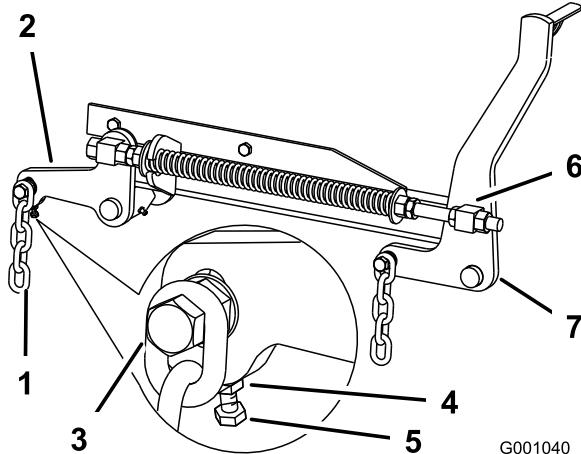

Figure 76
7. If the measurements at positions **B** or **C** are not correct, loosen the bolt attaching the rear chain to the rear support arm (Figure 76).
8. Loosen the jam nut under the rear support arm and adjust the adjustment bolt to get a measurement of 3-1/8 to 3-1/4 inches (Figure 76).
7. Loosen the front swivel jam nuts, at the front of the right and left swivels, approximately a 1/2 inch (13 mm) (Figure 76).
8. Adjust the lift nuts on both the left and the right side of the machine to achieve 1/4 to 3/8 inch (6 to 10 mm) lower in front at **A** than in the rear at **B** (Figure 76).